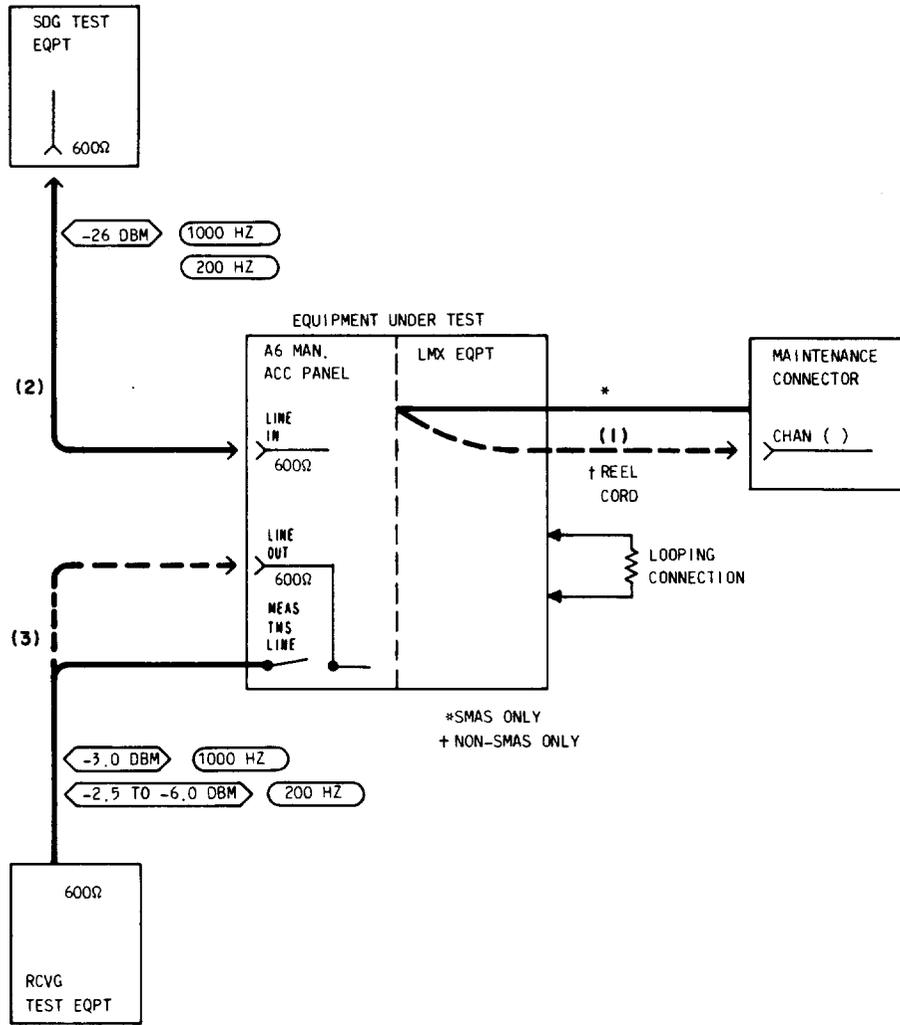

Fig. 8—Patching Diagram—Frequency Response Test—Equal-Level Looping
6b†	Connect the retractable cord (on the 22AU MAP) to the CHAN BANK connector (on the maintenance connector) for Channel 1 [patch (1), Fig. 8].
8	Connect the STE to the LINE IN jack [patch (2), Fig. 8].
9	Momentarily operate the MEAS TMS LINE/DROP switch to the LINE position. Note: If the T&NMS is not available via the MEAS TMS LINE switch, connect the RTE to the LINE OUT jack [patch (3), Fig. 8].
14*	Remove patch (2), Fig. 8 [and patch (3), if used].
15†	Remove the retractable cord (on the 22AU MAP) from the channel under test [patch (1), Fig. 8].
20†	Remove patch (2), Fig. 8 [and patch (3), if used].